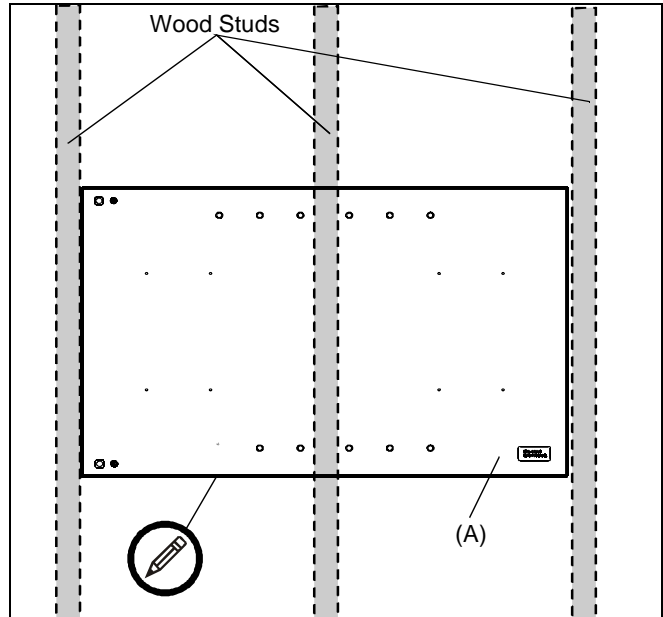

Figure 1
4. Using housing as a template, draw pencil line completely around housing. (See Figure 1)